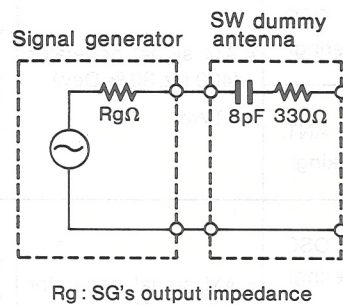

Fig. 10
7. SW. dummy antenna is shown in Fig. 10